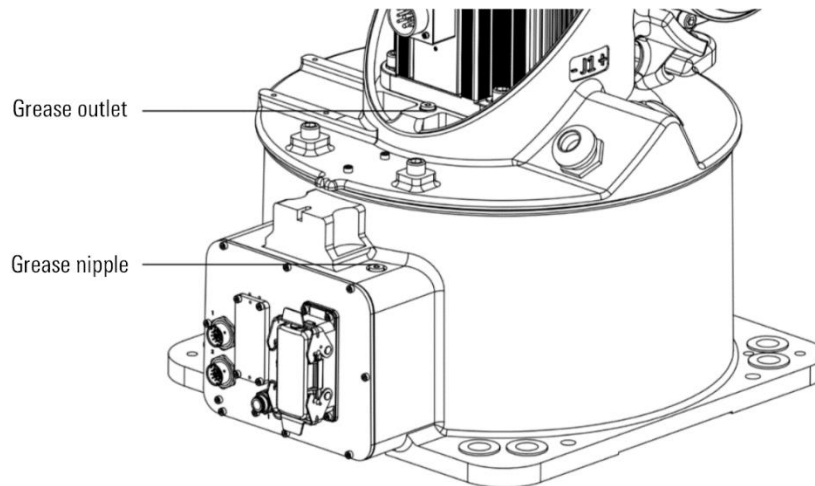

Figure 12-6 Replace the lubricating grease of J1 axis reducer
- Step4. Remove the grease outlet M10x1 plug, as shown in Figure 12-6.